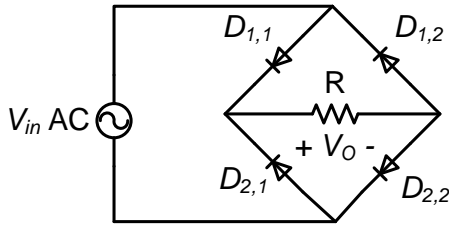
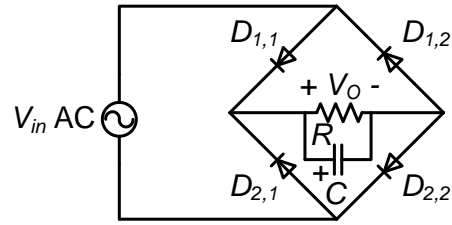

Fig. 3. Full-wave rectifier with resistive load
Fig. 4. Full-wave rectifier with resistive load and capacitive filtering
- 3.1.1 On the proto board, build the circuit shown in Fig. 3.
3.2.1 Using the same circuit in Fig. 3, connect an electrolytic capacitor (C) supplied by your instructor in parallel with the resistive load as shown in Fig 4.